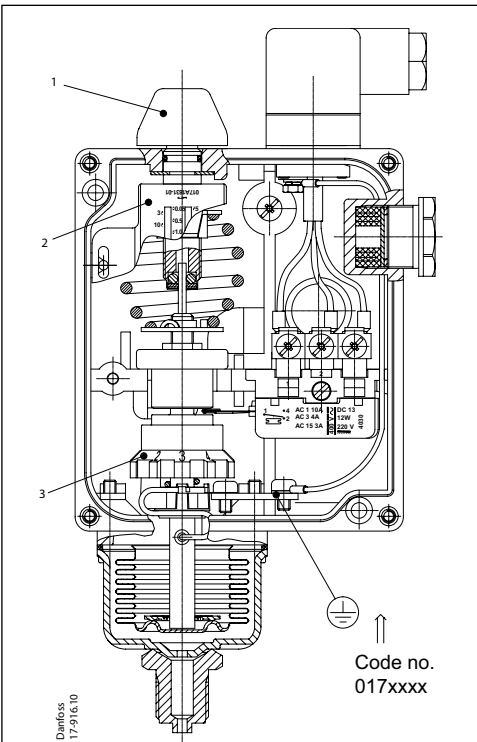

Fig. 1
To set a pressure switch, the seal cap (1) must be removed and the range setting screw must be rotated, at the same time reading the main scale (2), see fig. 1. The differential is set by rotating the differential adjusting nut (3) to the value indicated by the use of the nomogram in fig. 2. The maximum operating pressure is thus the sum of the setting pressure and the differential.